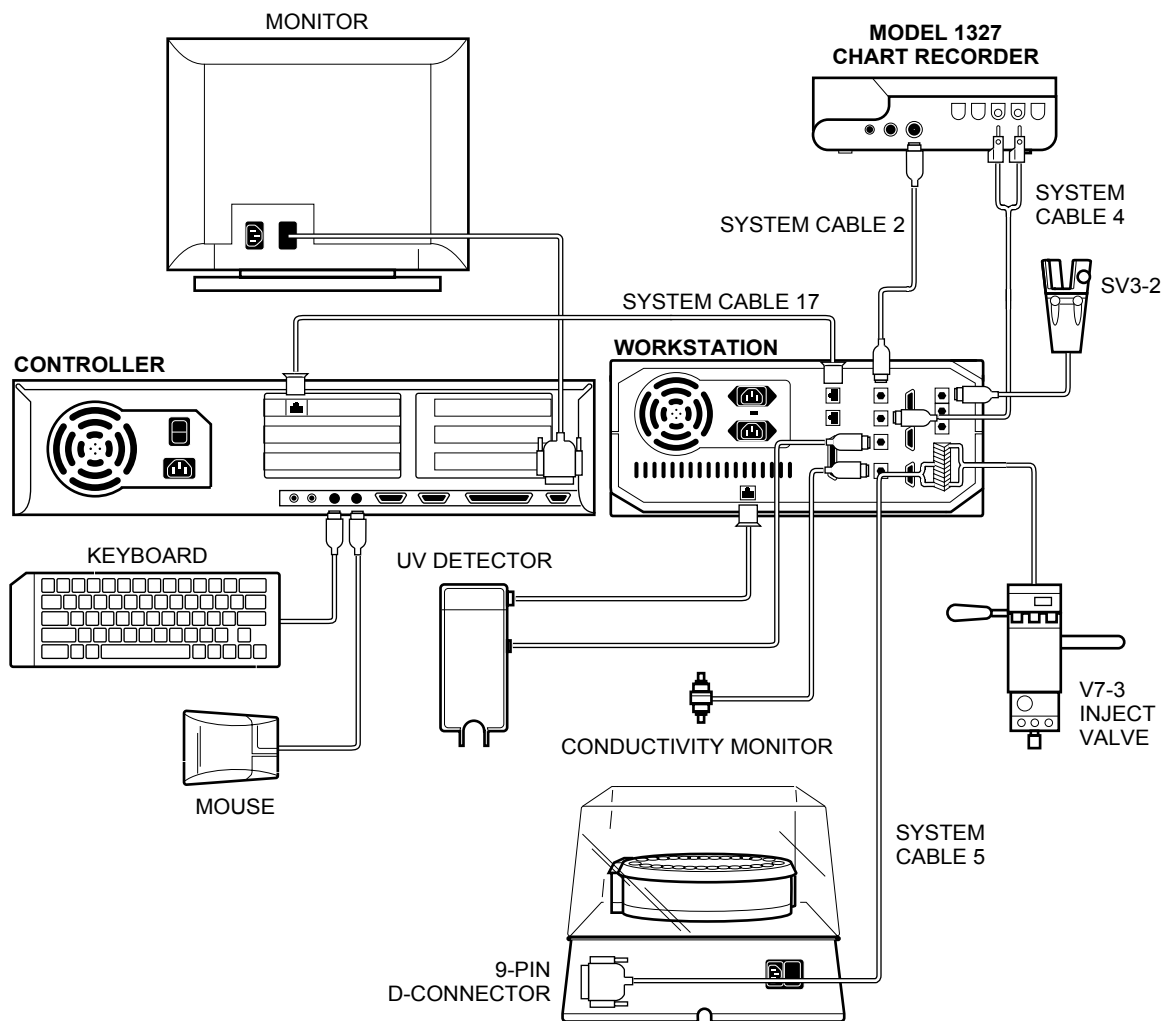

Figure 15. Manual System Cable Connections
- Connect the power cable (square connector) from the UV Detector lamp into the connector marked **"UV Lamp"** on the rear of the Workstation. Refer to Figure 15.
- Connect the UV Detector signal cable (mini-DIN connector) to the connector marked **"UV Optics"** on the rear of the Workstation. Refer to Figure 15.
- Connect the Conductivity Detector's combined power and signal cable (mini-DIN connector) to the connector marked **"Cond. Flowcell"** on the rear of the Workstation. Refer to Figure 15.
- The mini-DIN connector is connected to the connector marked “**UV Chart**” on the rear of the Workstation. Refer to Figure 15.
- The mini-DIN connector is connected to the connector marked “**Cond. Chart**” on the rear of the Workstation. Refer to Figure 15.
- Connect one wire to pin #1 (labeled “**Inject**”) of the AUX connector strip on the rear of the Workstation. Refer to Figure 15.
- Connect the control cable (**System Cable 5**) between the Workstation AUX connector and the fraction collector as shown in Figure 15 and described below:
1. Follow steps 1 to 5 above as for the Manual BioLogic HR system. Refer to Figures 15 and 16 when connecting the Automated BioLogic HR system.